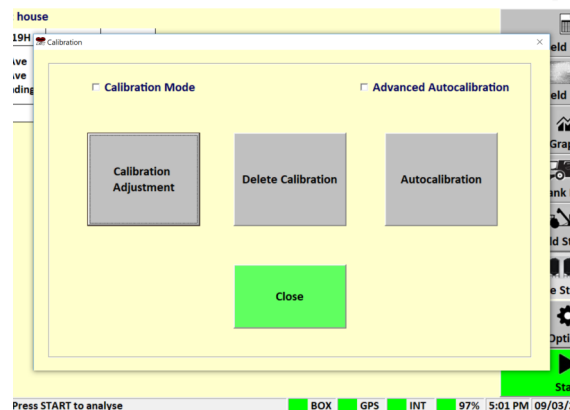
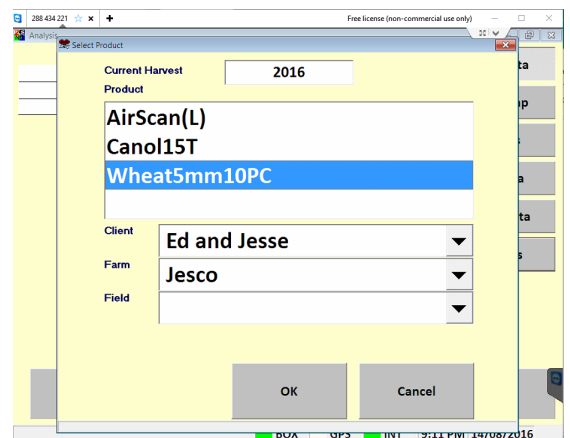

Figure 4.2. Calibration Menu.
Figure 4.3. Select Product Menu.
- 3) Press **Auto-Calibration** button and Select the Crop Type to validate. figure 4.2 and figure 4.3